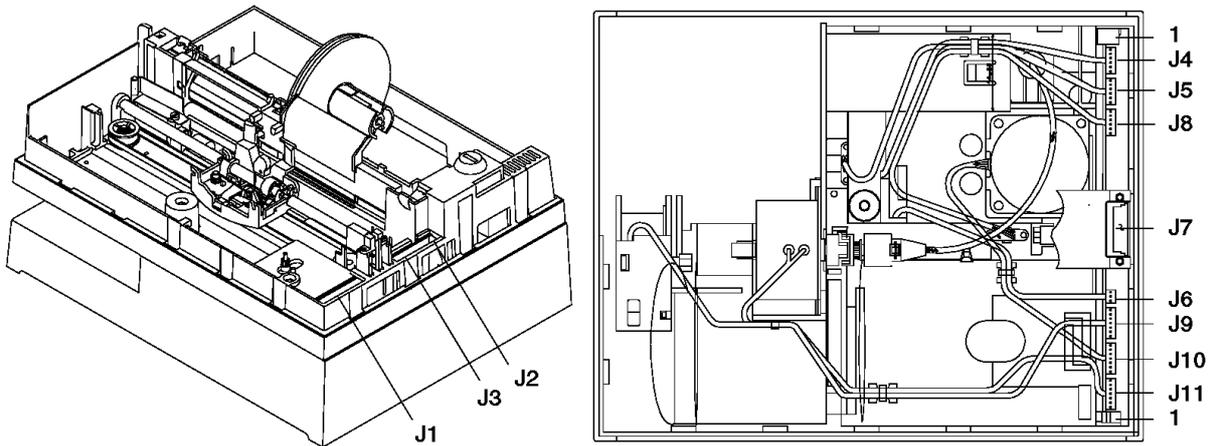

Figure 5-26. Printer Card Connectors
1. Raise the access cover and the journal station cover (1).
2. Pull out and up on the top cover assembly at each side of the document insert slot (3).
4. Disconnect the operator keypad cable from printer card connector J2. See Figure 5-26 in topic 5.5.22.2.